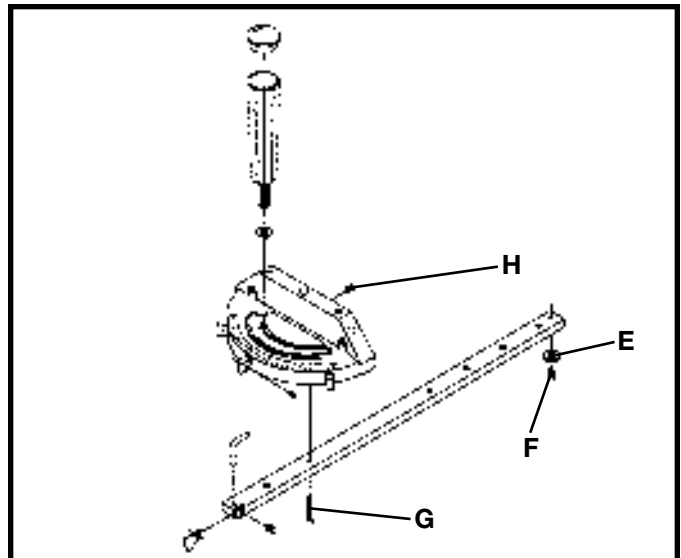

Fig. 70
The miter gage is equipped with a special washer (E) Fig. 70, and flat head screw (F), which are to be assembled to the end of the miter gage bar.
The head of the miter gage pivots on a special tapered screw (G) that fastens the head to the miter gage bar. If the miter gage head does not pivot freely, or pivots too freely, it can be adjusted by loosening set screw (H) Fig. 70, and turning the screw (G) in or out. Be certain to tighten screw (H) after adjustment is made.